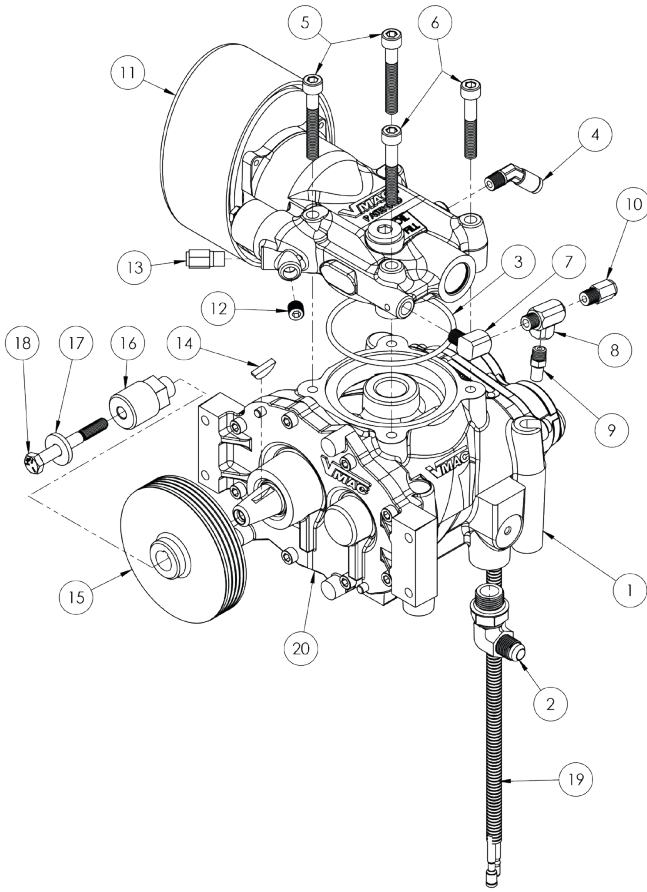

Figure 89 — Compressor Assembly (P190004)
2. Compressor Assembly, P190004 (Figure 89)